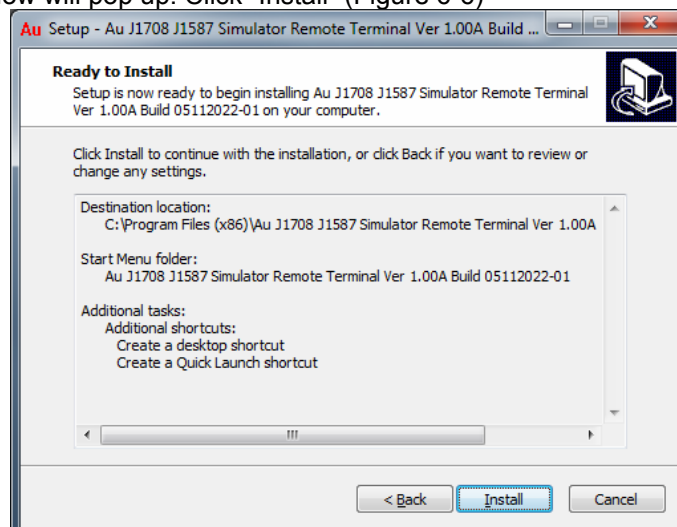

Figure 6-6
6. A “Ready to Install” window will pop up. Click “Install” (Figure 6-6)